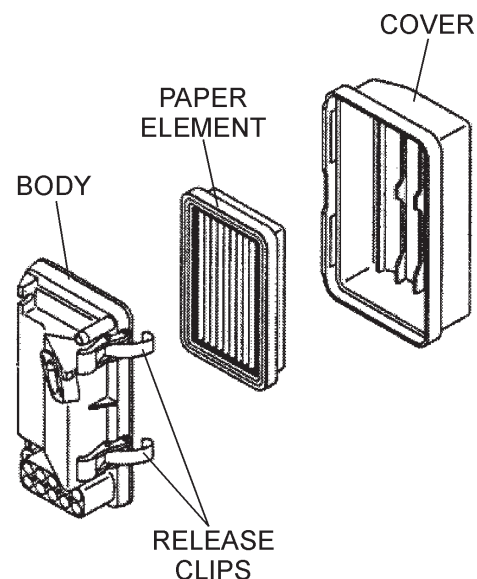

Figure 27. Engine Air Cleaner
- Remove the air cleaner cover and foam filter element as shown in Figure 27.
- Tap the paper filter element (Figure 27) several times on a hard surface to remove dirt, or blow compressed air [not exceeding 30 psi (207 kPa, 2.1 kgf/cm²)] through the filter element from the air cleaner case side. **NEVER** brush off dirt. Brushing will force dirt into the fibers. Replace the paper filter element if it is excessively dirty.